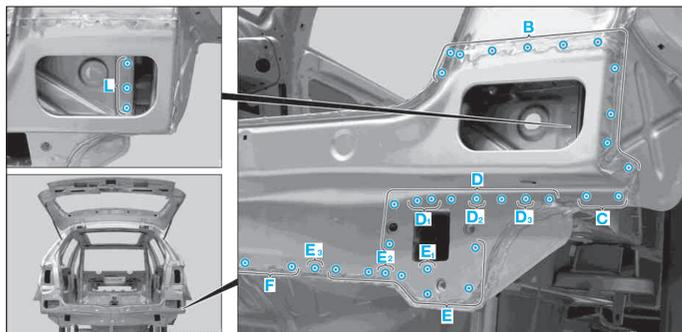
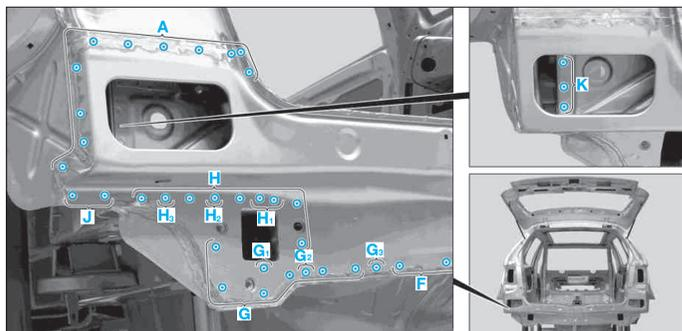
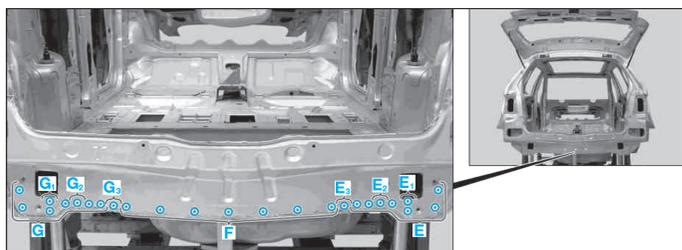

FIG. 112
FIG. 113
FIG. 114
- Fraiser les points de soudure (B), (C), (D), (D₁), (D₂), (D₃), (E), (E₁), (E₂), (E₃), (F) et (L) (Fig.112) et (Fig.114).
- Fraiser les points de soudure (A), (F), (G), (G₁), (G₂), (G₃), (H), (H₁), (H₂), (H₃), (J) et (K) (Fig.113) et (Fig.114).